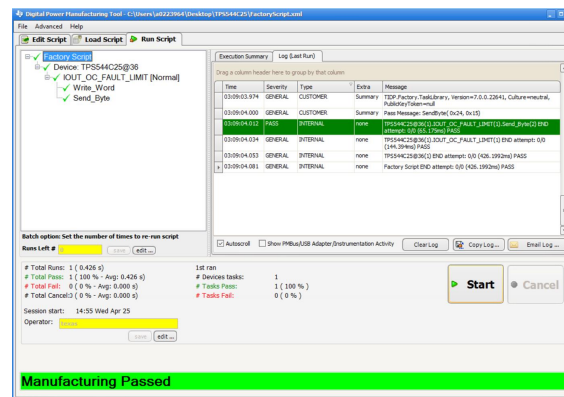

Figure 35. Running Script
7. When the Run Script tab appears, click the Start button to begin script execution (shown in Figure 35).